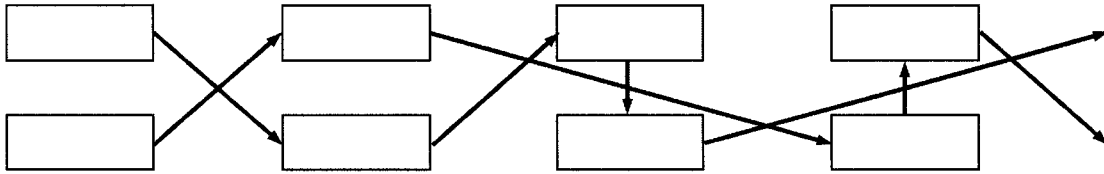

Fig 3. Interrupted flow paths
6. From Fig 3., It is a work flow. What will be occurred from this situation and how can you improve material flow in the manufacturing? Explain your own idea. (10 points)